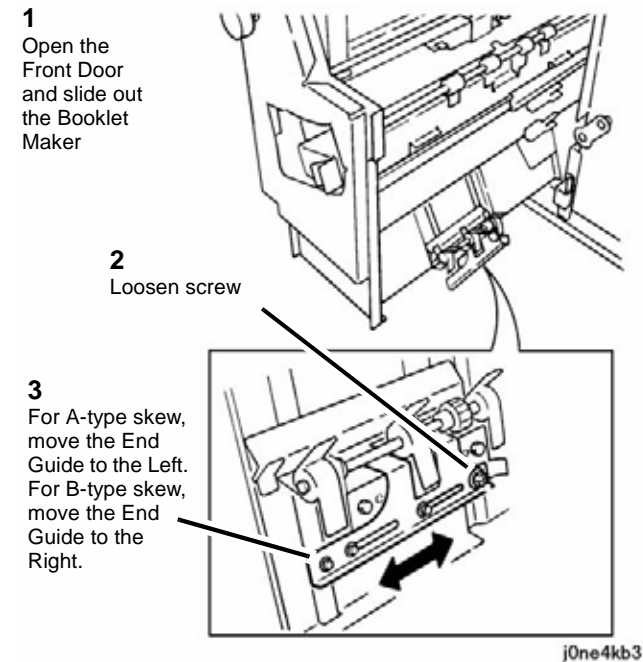

Figure 3 Adjusting Fold Skew
- Adjust the Booklet skew (Figure 3).